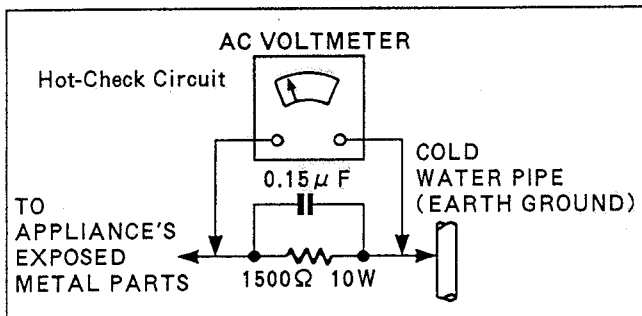

Figure 1
## LEAKAGE CURRENT HOT CHECK (See Figure 1)
2. Connect a 1.5 K $\Omega$ , 10W resistor, in parallel with 0.15  $\mu$  F capacitor, between each exposed metallic part on the set and a good earth ground such as a water pipe, as shown in Figure 1.